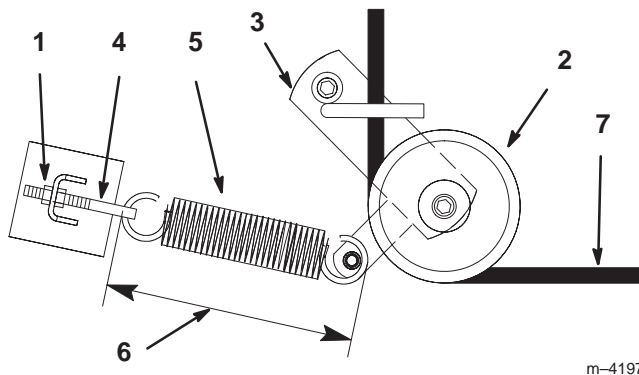

Figure 52
3. Loosen the outer nut on the spring eye bolt (Fig. 52).
5. Remove the spring loaded idler pulley (Fig. 52).
6. Route the new belt through the idler arm (Fig. 52).
8. Tighten the outer nut on the spring eye bolt (Fig. 52).
Note: Check the spring length. The spring should measure 9-3/8 ± 1/8 in. (238 ± 3 mm) when installed. Adjust it if it does not (Fig. 52).